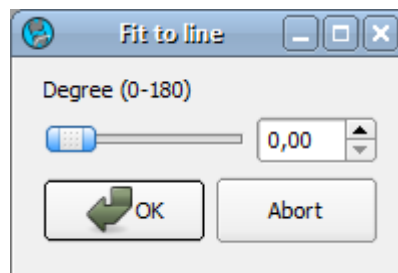

Figure 8.3.: The window to rotate the plane indicating where the lines will get drawn.
37. **Fit to Line** Creates two lines (if possible) on the surface of a model (see figure 8.3, page 36). *Available: Two points overall on one model.*